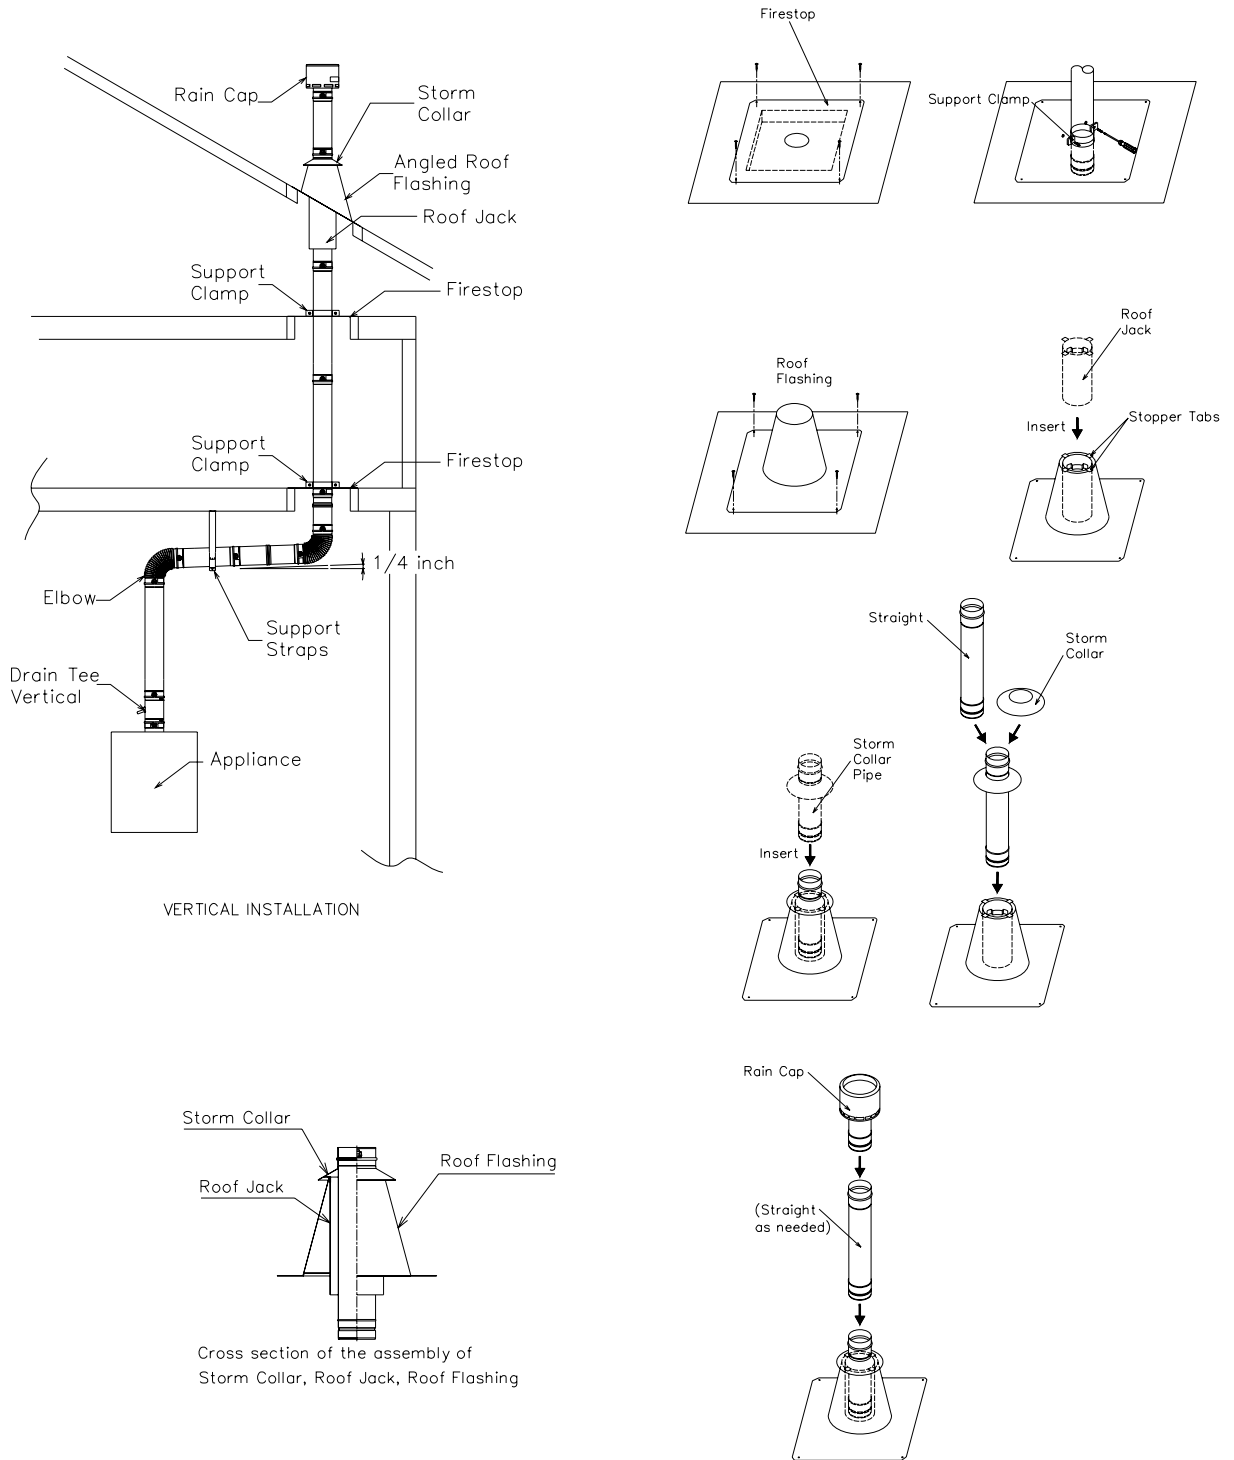

Fig 7 Detail of Vertical Installation
If the appliance manufacturer's instructions or local regulations call for a condensate drain, locate the Drain Tee(Horizontal or Vertical) - shown in TABLE 2- as close as possible to the appliance exhaust gas outlet(flue collar) (like FIG 7). Locate the Drain Tee Horizontal at any transition from horizontal to vertical vent run. Confirm the direction of the Drain Tee Vertical, which has the direction label(UP,DOWN).
(2)VERTICAL INSTALLATION(See FIG.7)